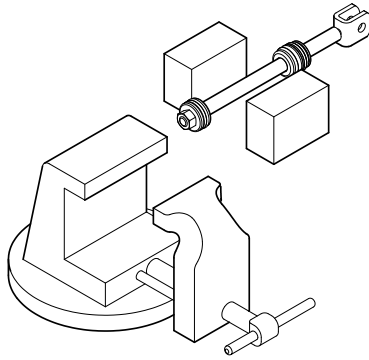

Figure 4-3, Cylinder Shaft
6. Clamp the rod assembly in a soft jawed vise on the wrench flats, not on the rod surface. If the rod does not have wrench flats use two pieces of wood on both sides of the rod to prevent scarring. (Figure 4-3)